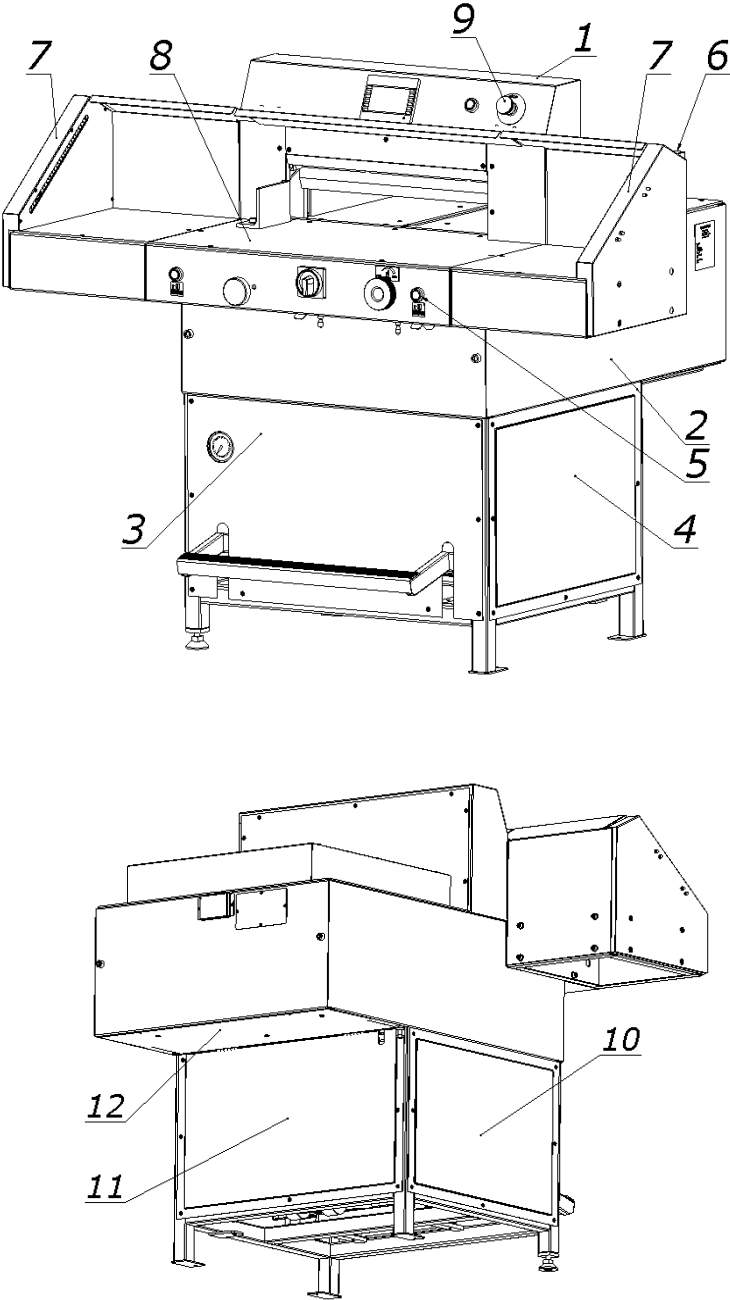

Figure 3. Arrangement of covers and protective elements
**Table 3. Safety devices in Figure 3**